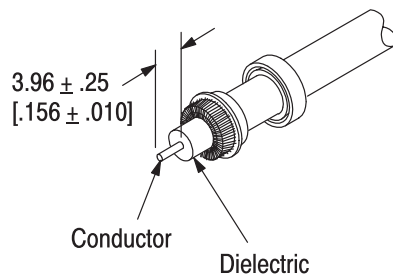

Figure 4
3. Strip dielectric to expose center conductor, using the dimension in Figure 4. Tin the center conductor, if applicable.